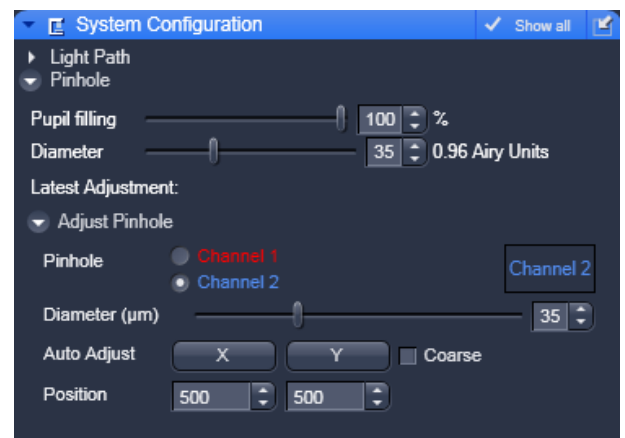

Fig. 9-33 Pinhole adjustment panel
- Open the **Adjust** Pinhole window (Fig. 9-33). Press the tab again to close the window.
- <Open the **Pinhole Adjust** window (Fig. 9-33).